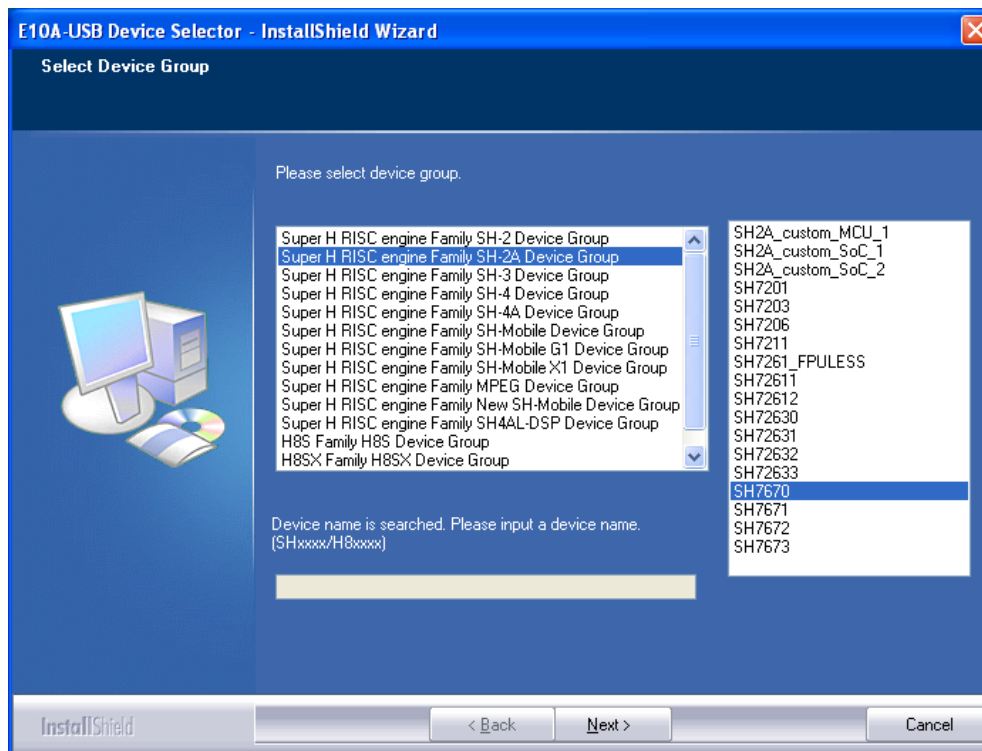

Figure 3.2.3 E10A-USB Software Installation Procedure (3)
- (3) When the dialog box shown in Figure 3.2.3 is displayed, select “SuperH RISC engine Family SH-2A Device Group” and “SH7670”, then click “Next”.